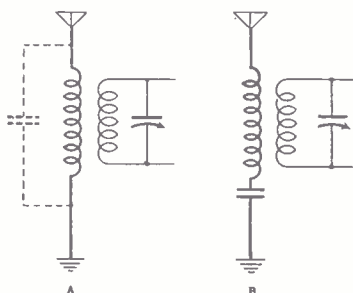
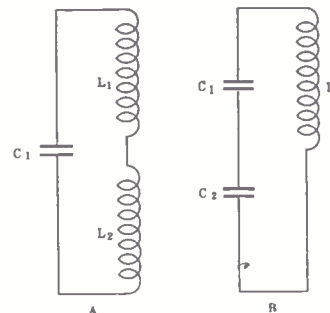

FIG. 1.
FIG. 2.
Now, its application is very simple and the comprehension of its action is just as simple, when considered from the proper angle. Let us forget the condenser for a moment and analyze the circuit wherein the condenser is usually located. We have a primary circuit as shown in Fig. 1 (A). Ignore the secondary circuit that is shown to make more prominent the primary circuit.
And since the aerial circuit is composed of inductance and capacity we can illustrate that circuit as in Fig. 2 (A). This is possible in view of the fact that both the distributed inductance of the aerial and lead-in and the distributed capacity between the aerial and ground have definite values. The distributed inductance
of the average single wire receiving aerial approximates 20 to 30 microhenries, and the distributed capacity is often about .00025 mfd. So we can assume C1 in Fig. 2 (A) to be a condenser of .00025 mfd. and L1 a coil of 20 microhenries. L2 is representative of the lumped inductance, the primary coil, which of course possesses its own inductance value. Let us assume this to be 80 microhenries. And as inductances in series add, we can assume the total inductance of 100 microhenries to be one lumped inductance, the circuit then evolving itself into an inductance shunted by a fixed capacity.
We are all aware that an electrical circuit consisting of a coil and condenser is resonant to a certain frequency, or is tuned to a certain wave length, the exact value of which is dependant upon the inductance and capacity values. Hence the aerial circuit as illustrated in Fig. 1 (A) and theoretically in Fig. 2 (A), is tuned to a definite wavelength by virtue of its inductance and capacitance values.
Let us now insert fixed capacity into the aerial circuit as in Fig. 1 (B), the condenser being connected between the ground and the primary inductance. Theoretically we have effected the change shown in Fig. 2 (B). In this circuit diagram the inductance marked L is the sum of the two inductances L1 and L2 of Fig. 2 (A). The capacity C1 is the capacity C1 of Fig. 2 (A) and the capacity C2 is the series condenser as shown in Fig. 1 (B). Now we have an inductance shunted by two fixed capacities in series, since the insertion of the series aerial condenser is the equivalent of placing another condenser in series with the capacity of the aerial-ground system.
The electrical resonance phenomenon still holds true, but the frequency to which circuit B in Fig. 2 is resonant is different than that of the circuit in Fig. 2 (A). In other words the wavelength of the circuit has been changed, because the capacity shunting the coil L is not of the same value as previously. This is so because the resultant capacity when two capacities is different.